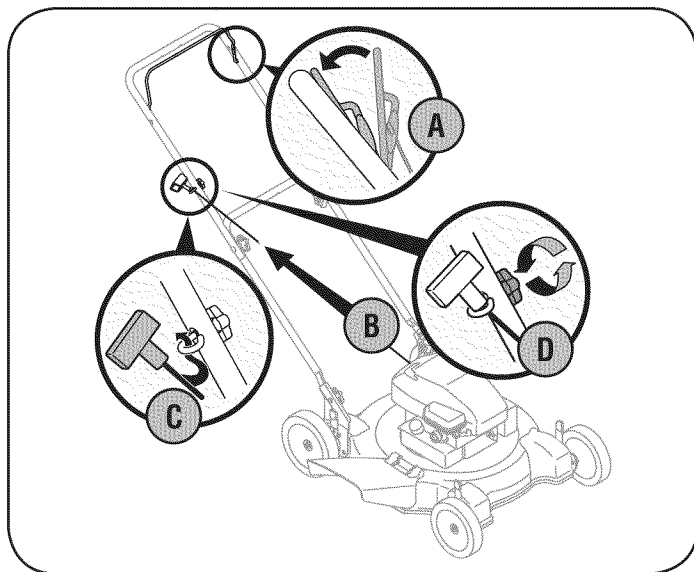

Figure 4
3. The rope guide is attached to the right side of the upper handle. See Figure 4. Loosen the wing nut which secures the rope guide.